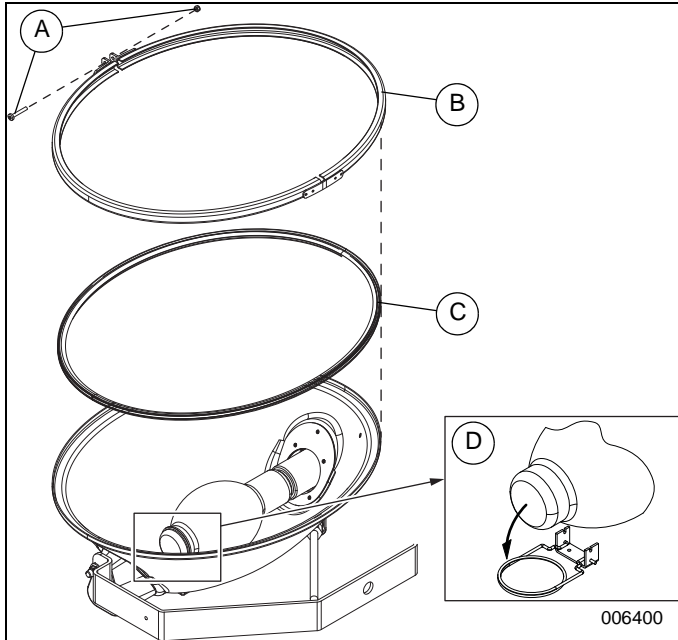

Figure 4. Bulb Removal
4. See **Figure 4**. Remove bulbs from light fixtures: Remove hardware (A), lid (B), and gasket (C). Unfasten bulb support (D). Remove and retain bulb.